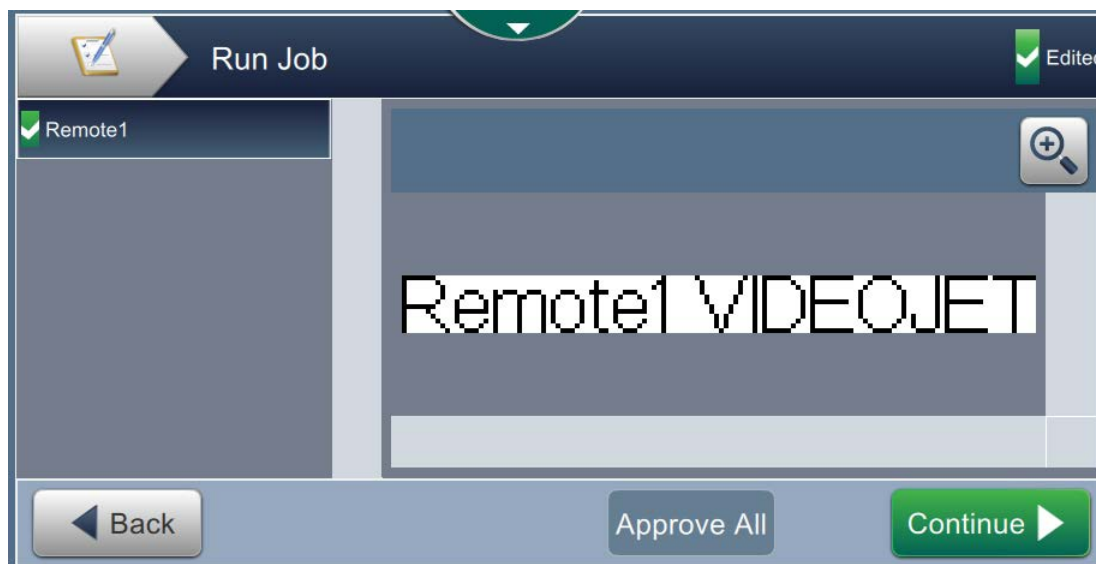

Figure 3-10: Run Job Screen
12. Touch **Approve All** button and then touch the **Continue** button, since the message contains user prompted field (Figure 3-10).